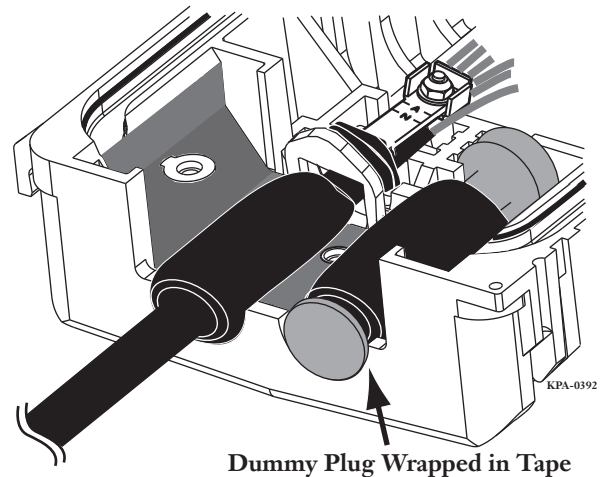

Figure 14
**Step 1:** Install a prewrapped dummy plug into one of the open ports with the closed end of the plug flush against the outside of the end cap (Figure 14).